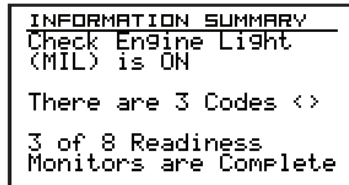

Fig.7
4. The Save Vehicle Scan question (Fig.8) displays followed by the Information Summary (Fig.7) if the scan was successful.
1. The Information Summary screen (Fig.7) tells you if the check engine light is on, the number of DTCs and how many readiness tests are completed.